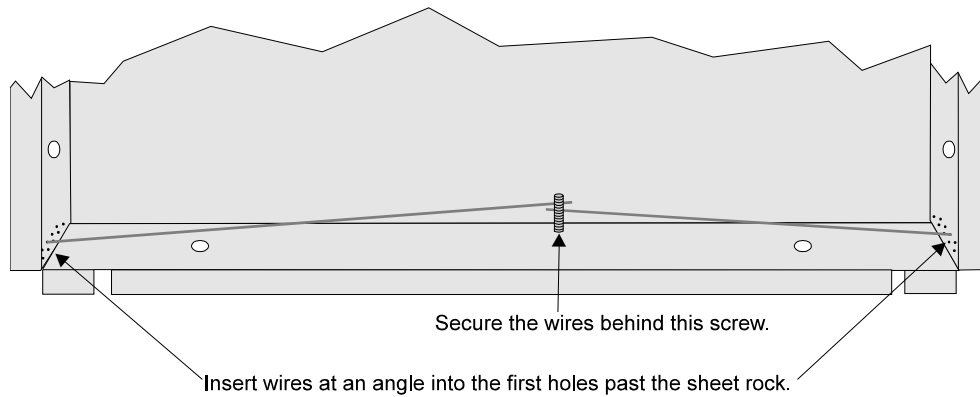

Figure 4-12 Flush Mounting the Back Box
3. Fit the annunciator back box into the hole and stabilize with mounting wires. Angle the mounting wires into the first hole past the sheet rock. Secure the wires behind the screws as shown in Figure 4-12. When all four wires are in place, the back box should fit snugly into the hole in the sheet rock.